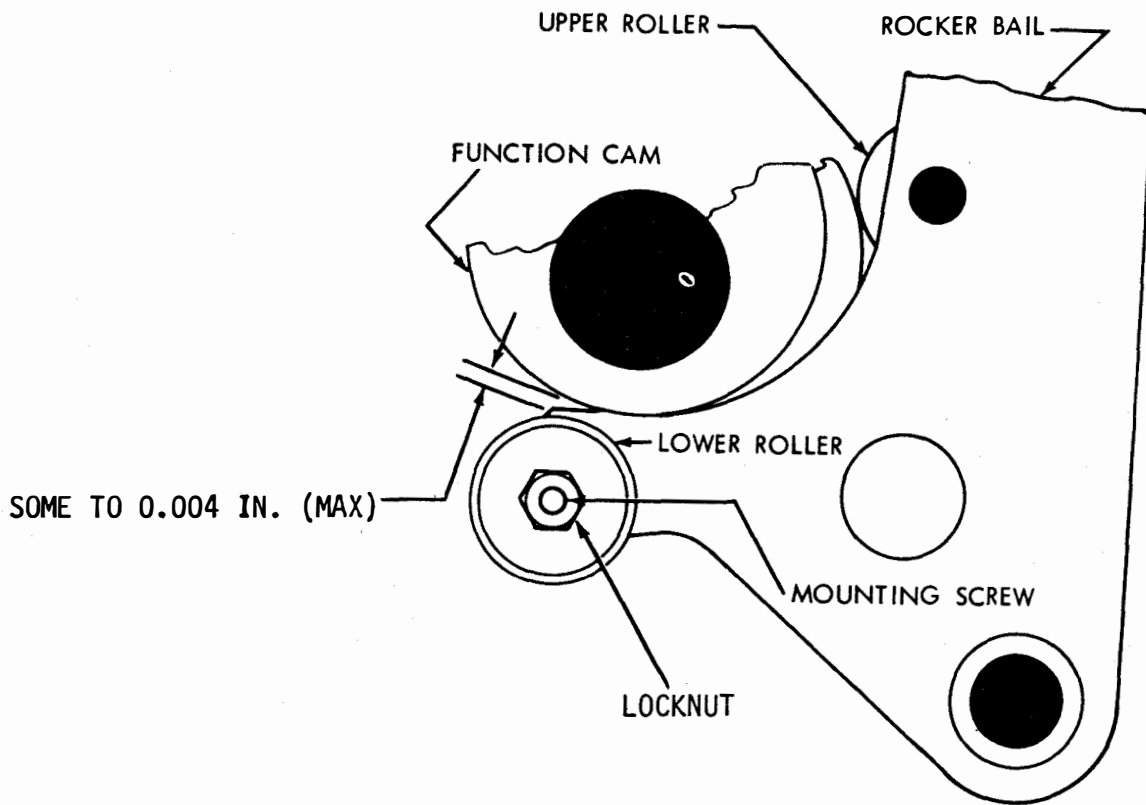
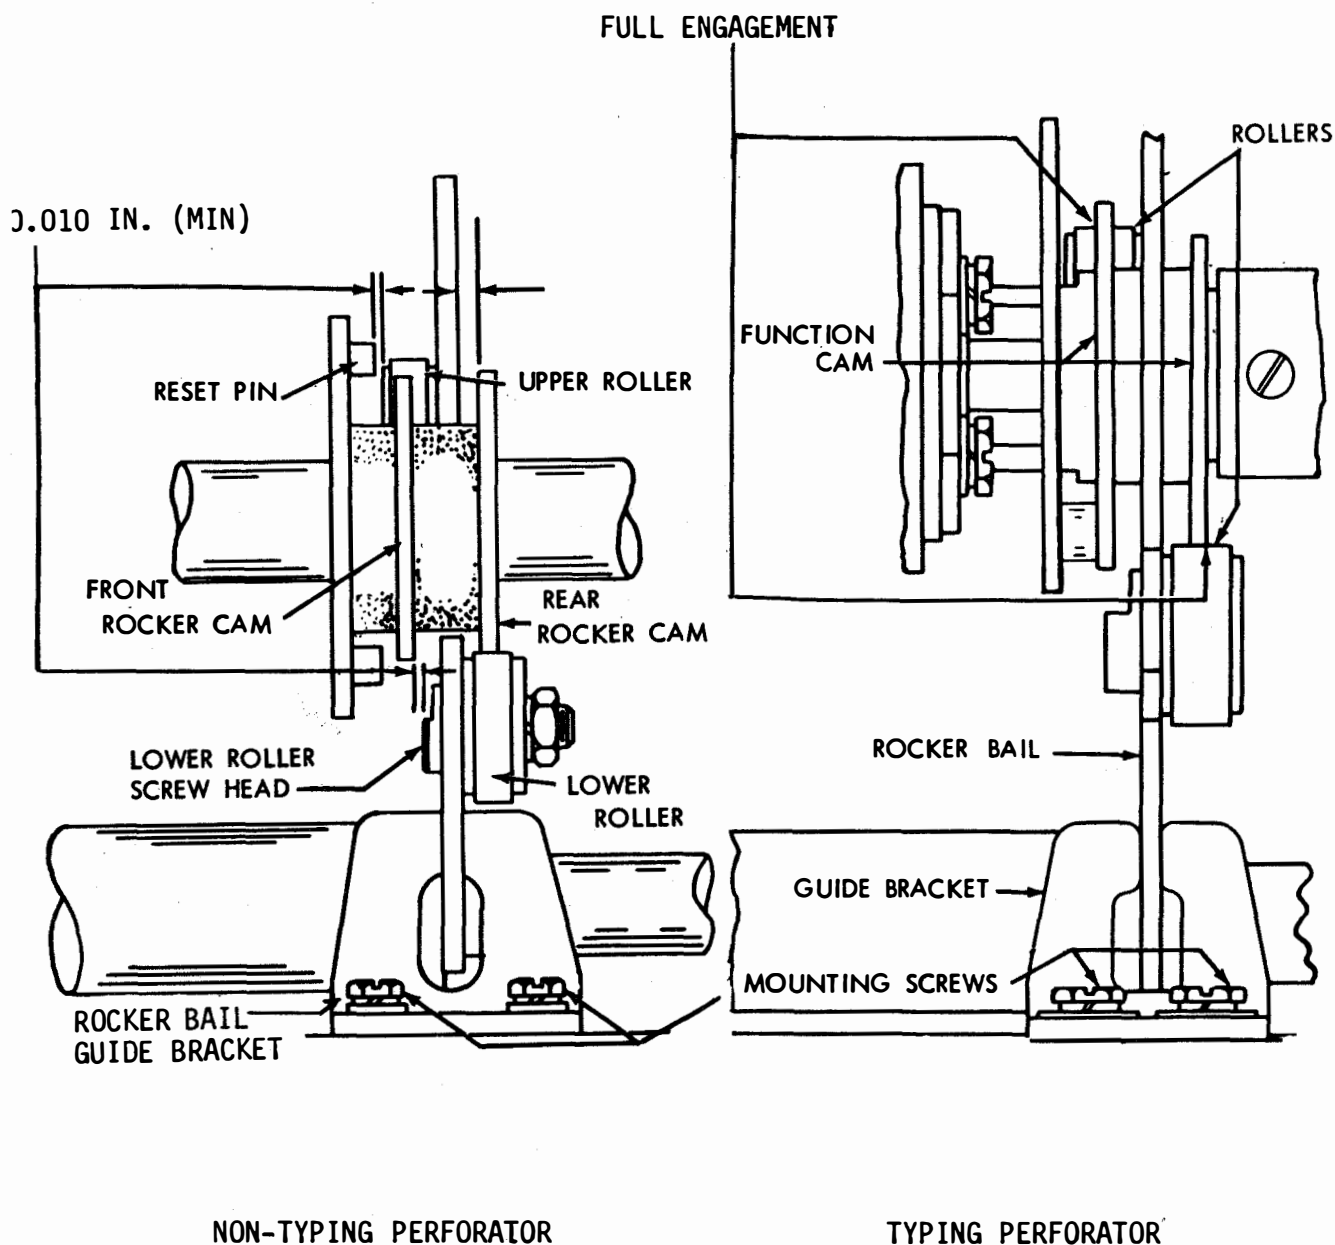
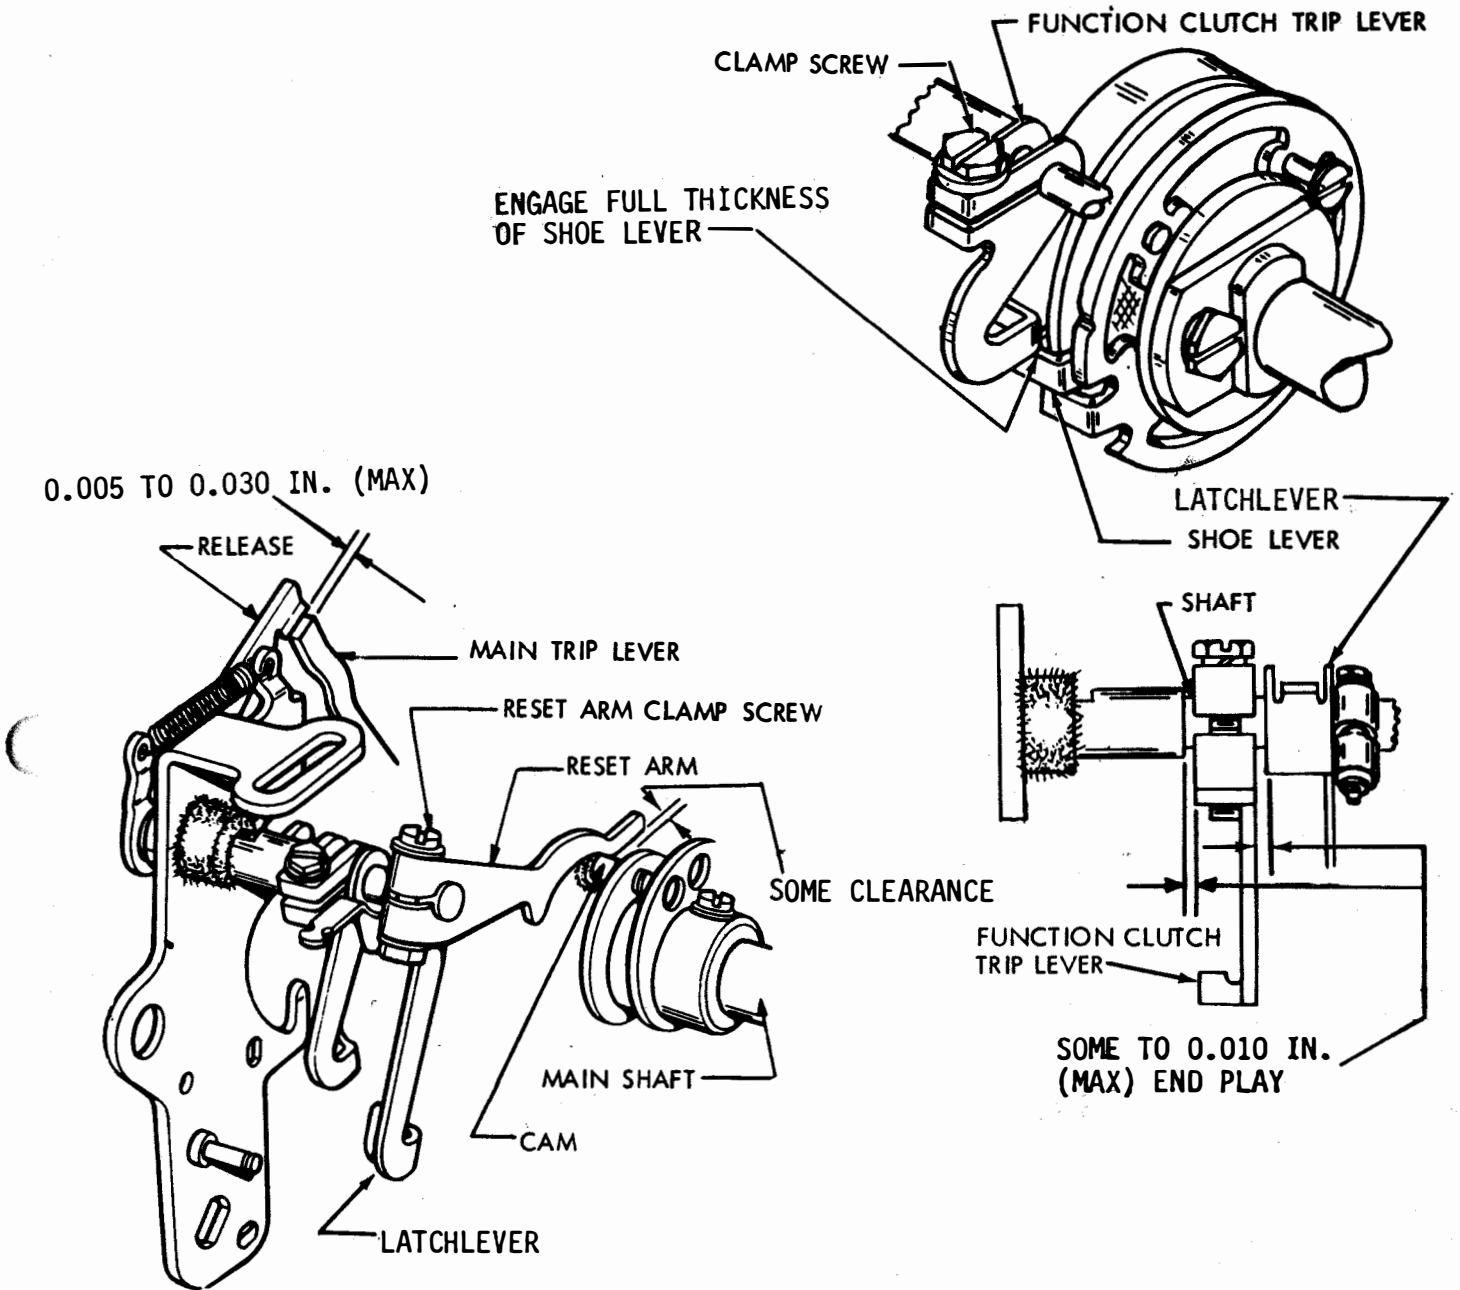

Figure 6-140. Rocker Bail, Rear View
Figure 6-141. Rocker Bail Guide Bracket, Typing and Non-typing Perforator
Figure 6-142. Function Clutch Trip Lever and Reset Arm, Right Side View
- (a) Refer to Figure 6-140.
(6) Rocker Bail Guide Bracket (Typing Perforator). Adjust as follows:
- (a) Refer to Figure 6-141.
(7) Rocker Bail Guide Bracket (Non-typing Perforator). Adjust as follows:
(8) Function Clutch Trip Lever. Adjust as follows:
- (a) Refer to Figure 6-142.
(a) Refer to Figure 6-142.